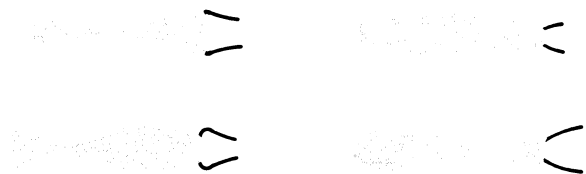

Fig. 17 Incorrect waveform examples
2. If the waveform varies as shown in **Fig. 17**, adjustment becomes required.